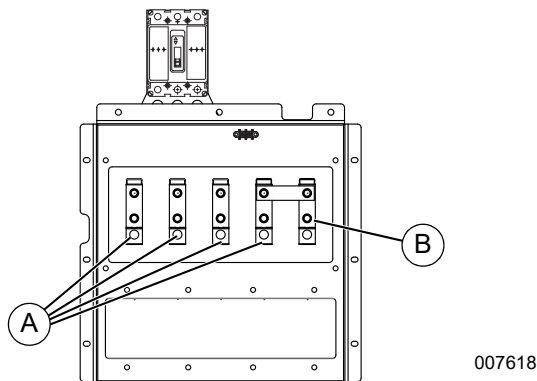

Figure 3-4. Generator Connection Lugs
See Figure 3-4. The unit is equipped with connection lugs (A), located on the lower portion of the control box behind the lug box door. The lugs provide connection points to attach external loads to the generator. A large decal on the inside of the connection lug door details the proper connections for selected voltages.